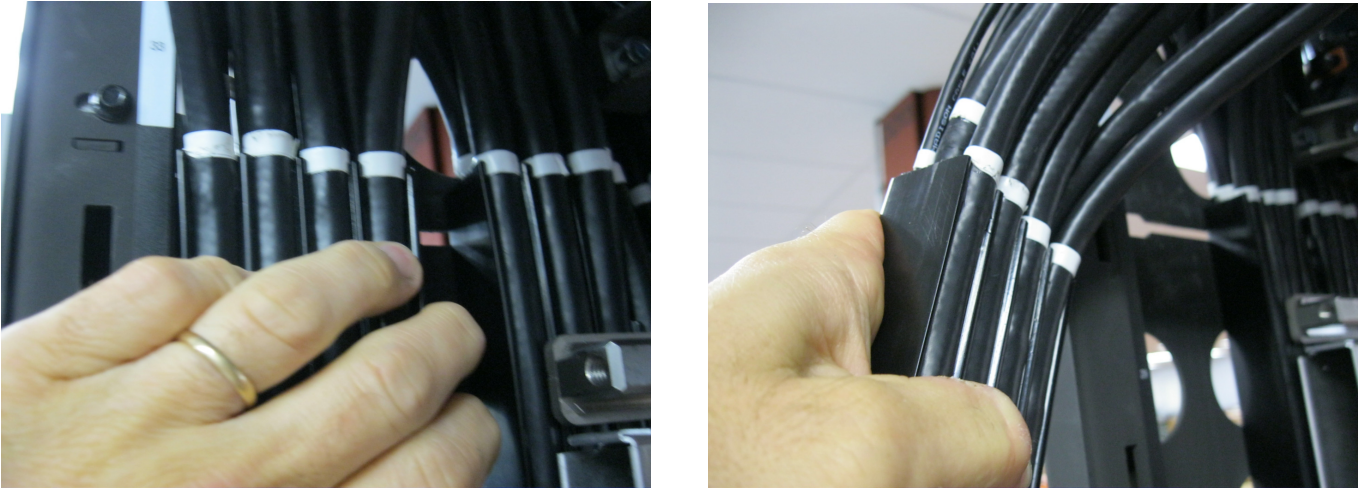

Figure 15 DCCA Power Cable Raceway Removal
STEP 15 Once the UPIC raceway has been removed, slide the first DCCA Power Cable raceway forward until it disengages from the mounting slots. It can then be removed from the rack. Repeat this process until the desired cable is located (see photos in Figure 15 below).